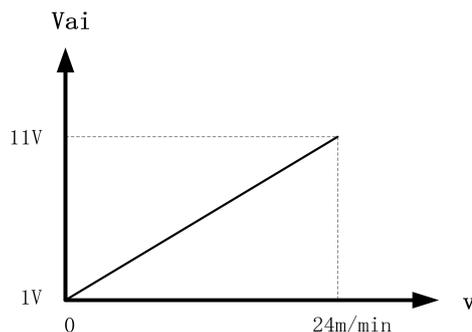

Fig. 4-18 Proportional diagram: preset welding voltage V.S. voltage of analog signal from robot to welding machine
4. The proportional diagram between the preset welding voltage and analog output value from the robot to the welding machine is shown in Fig. 4-18.